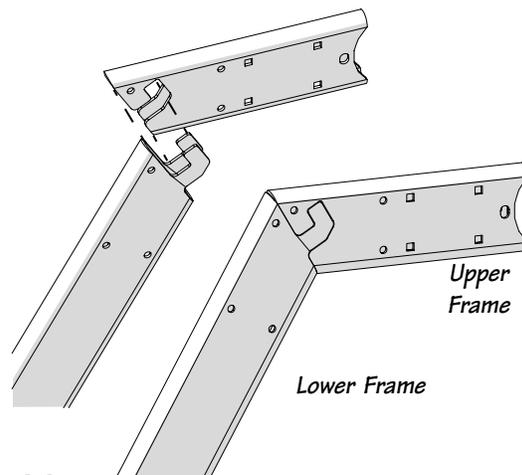

Fig. 2-2
- Grasp the lower frame with one hand and the upper frame rail with the other. Align the male "puzzle" end of the lower frame with the female "puzzle" end of the upper frame. Slide the frames together from the side as shown in Fig. 2-2.